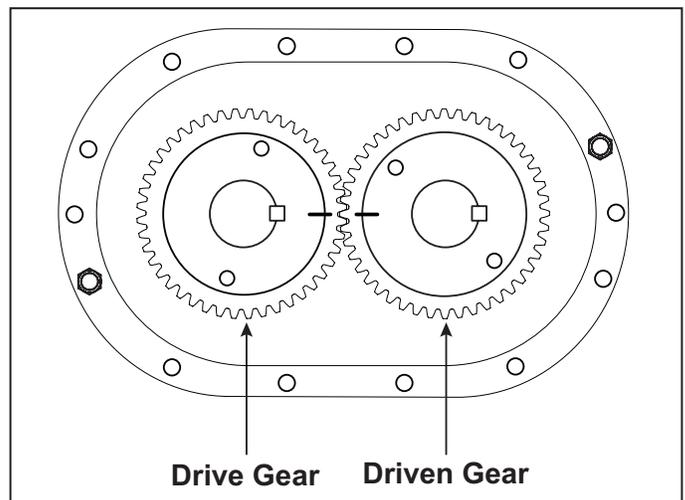
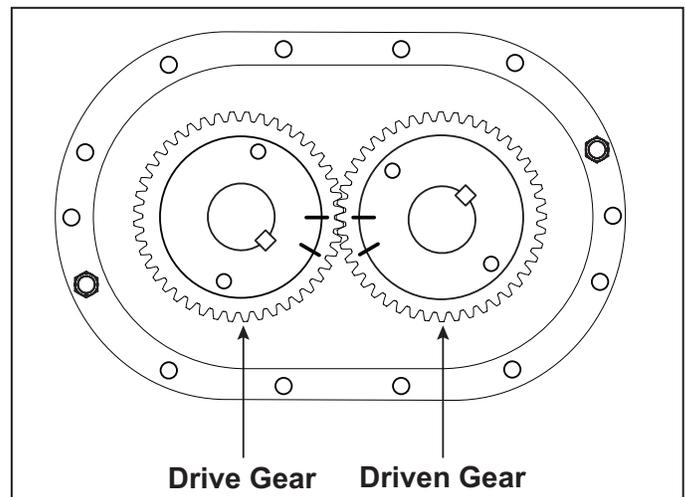

Figure 6A - Keyways in line and timing marks matched
Figure 6B - Timing marks advanced 3 teeth (Reference marks aligned)
- a. Align timing marks on gears (Figure 6A). Rotate drive gear clockwise approximately three teeth and mark a matching reference line on each gear as shown in Figure 6B. This gear position is necessary so rotors will clear and not jam. Do not allow the gears to move from the matched reference line while pulling. Use a light rocking motion to insure that the lobes have
- Insert gear keys [24] in their proper location and flush with top of shaft. Use the two keyways facing to the right. A tight fit is required. Coat shafts and keys with lubricant. Install drive gear (right hand helix) on drive rotor (left side). To install driven gear, align reference marks as shown in Fig. 6B. Install driven gear carefully to avoid damaging any teeth when engaging opposite gear. Secure with spacers [57], washers [25], and flat head Allen screws [29]. NOTE: All timing gears must be used in sets, as they are matched and serially numbered.